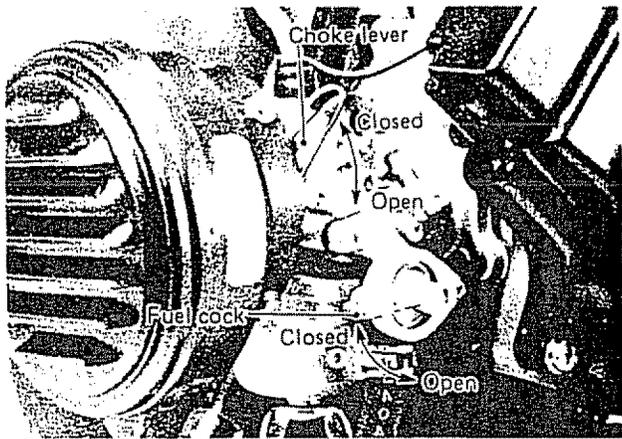

Figure 5
V. STARTING THE ENGINE (Fig. 5 & 6)
1. Open fuel cock. (Fig. 5)
2. Close choke lever. (Fig. 5)